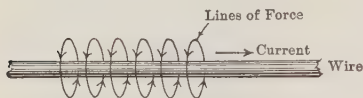

FIGURE 348. — The fingers would encircle the wire in the direction of the arrows.
*Grasp the wire with the right hand, so that the thumb is pointing in the direction in which the current is flowing; then the fingers will point in the direction in which the lines of force encircle the wire (Figure 348).*